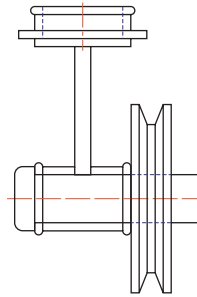

Fig. 10.19 Example – Xrefs
Example – External References (Fig. 10.19)
8. Now reopen the original drawing. The **external reference** within the drawing has changed in accordance with the alterations to the spindle drawing. Fig. 10.19 shows the changes in the front view of the original drawing.